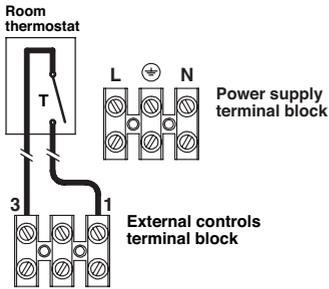

Fig. 6.18
- Connect the room thermostat between terminals 1 and 3 as shown in Fig. 6.18.